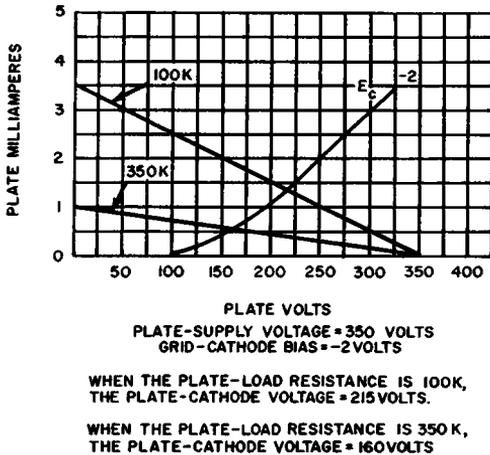

Fig. 9-3. Variation of plate-cathode voltage with load resistance.
2. Increased resistance in the plate circuit (Fig. 9-3).